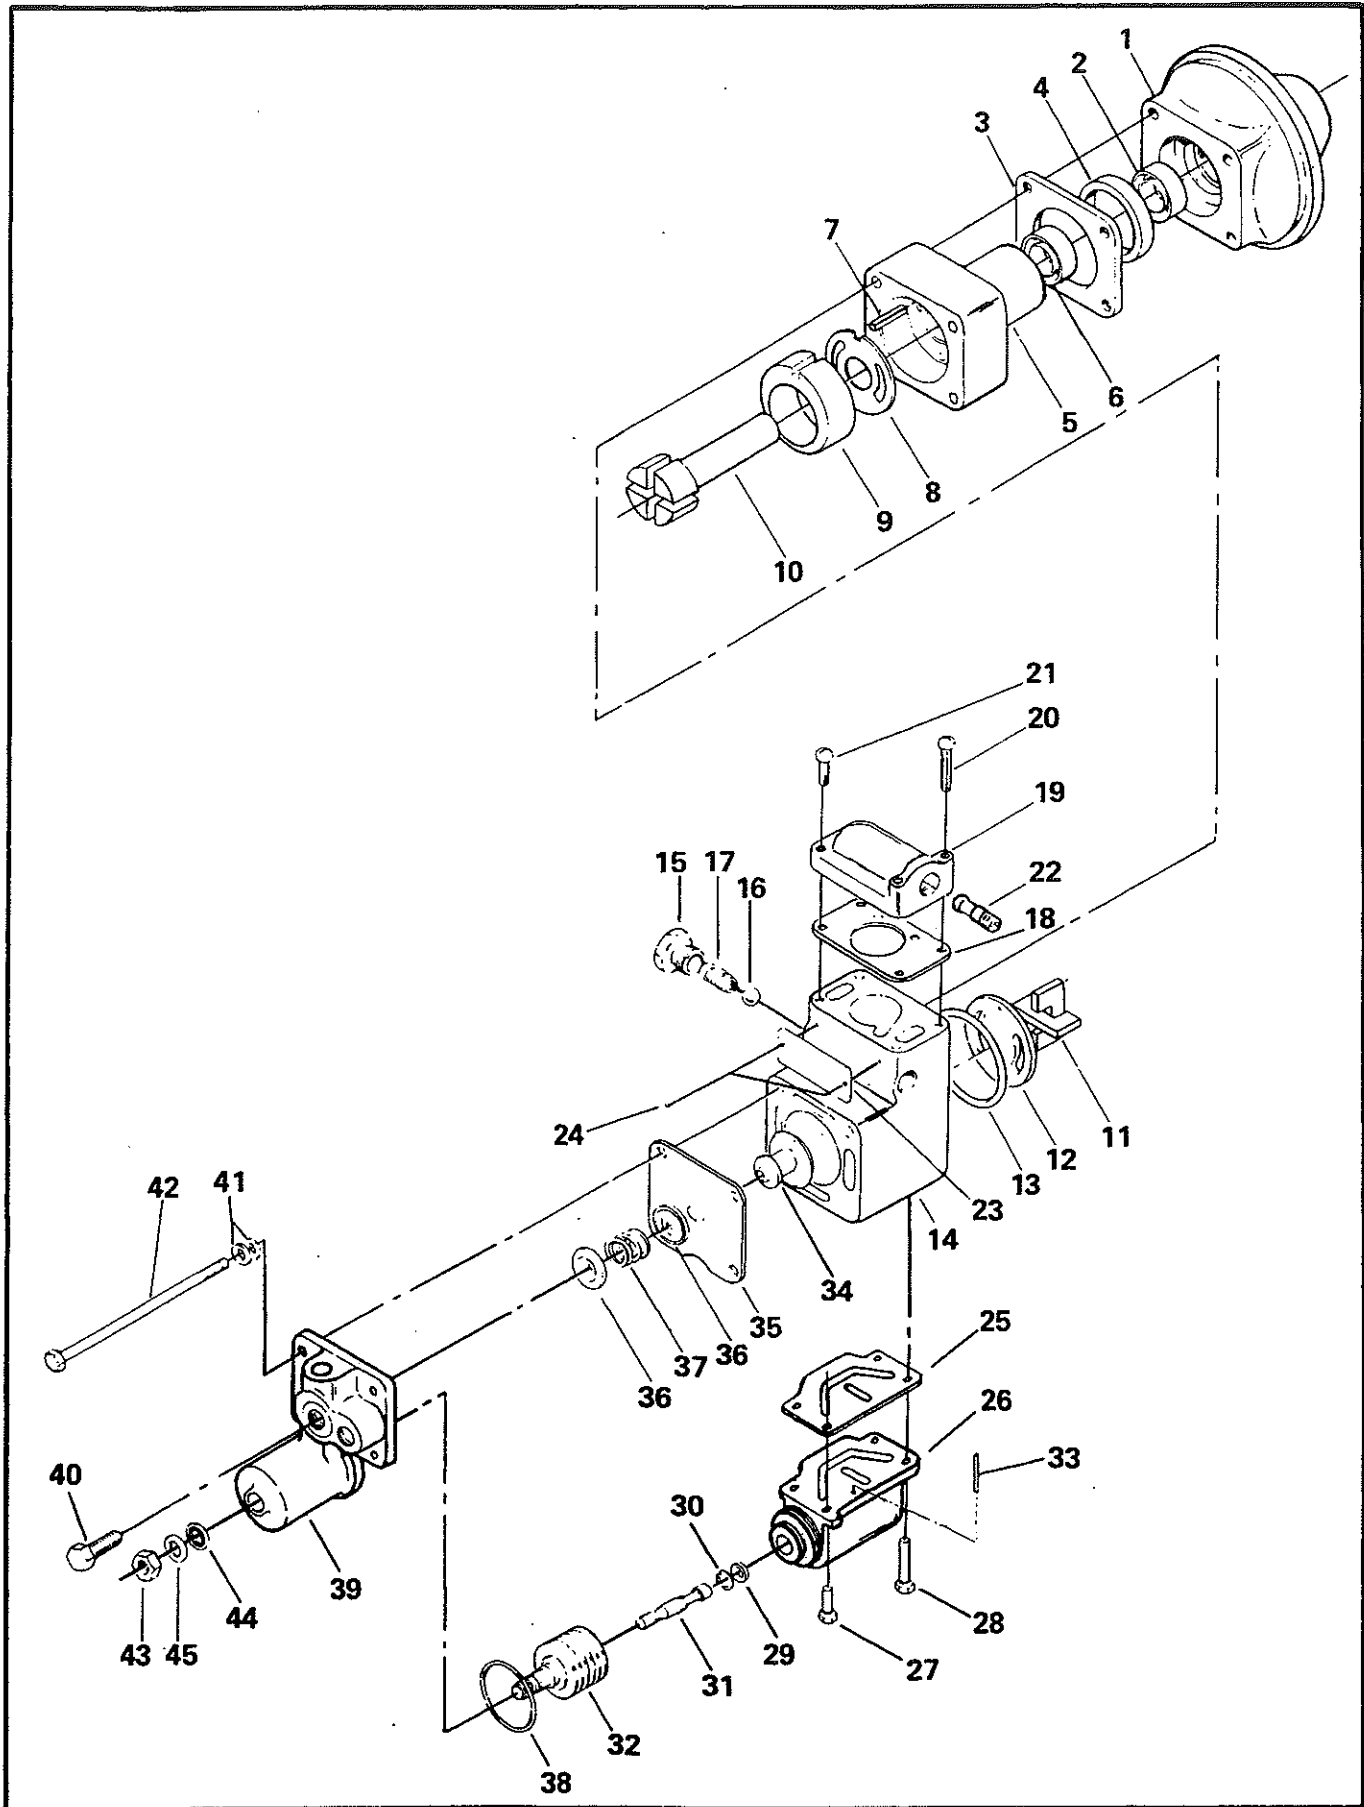

FIGURE 40-08. FUEL PUMP ASSEMBLY.
A. Place pump assembly in a suitable fixture and remove all lockwire. Refer to Figure 40-08. Remove screw (40) from cover (39) to release spring pressure. Remove nut (43), plain washer (45) and seal washer (48), from aneroid adjusting screw. Remove four bolts (42) from pump assembly and vapor separator relief valve aneroid assembly and vapor separator relief valve aneroid assembly (14 through 45). Remove this section from basic pump assembly (5 through 13). Separate cover (39) from body (14) and (26) while screwing down on aneroid (32). Use care when removing cover so as not to stretch aneroid (32) or compress it by screwing it too far into cover (39) prior to separation from body (26).
B. Remove screw (27 and 28), variable orifice body (26), gasket (25) and "O" ring (38). Pin (33) must be removed so aneroid (32) and rod (31) can be withdrawn from body. The rod seal (29) and retaining ring (30) can be removed for replacement by soaking variable orifice body (26) in a mixture of 80% Glacial Acetic acid and water, then scrape off the softened epoxy. Remove ball (16), spring (17) and plug (15) from vapor separator body. Remove screws (20 & 21), cover (19), gasket (18) and ejector (22).
C. Disassembly of the basic pump should be accomplished in the following manner. Refer to exploded view in Figure 40-08 and remove the adapter (91) and insulator (3) from the basic pump. Remove seal (2) from adapter (1) and bushing (4) from insulator (3). Hold pump body firmly in palm of hand, end plate (12) down, and apply pressure to drive end of rotor shaft (10) forcing end plate (12), end plate seal (13), blades (11) and shaft (10) from pump body. Remove seal (6) and discard. It is important to note the liner position relative to the rotation marking found on the top surface of the liner. It must be installed with the proper marking (C or CC) in the up position.
A. Reassemble basic pump (5 through 13) in reverse order of disassembly. Refer to Figure 40-08, and install seal (6) in body (5). Install pin (7), plate (8) and liner (9) in body (5). Be sure liner is installed with proper rotation lettering visible. Use light machine oil to lubricate shaft (10) and install in pump. Install blades (11) in position and lubricate lightly. Install plate (12) and seal (13) to complete basic pump assembly. Install seal (2) in adapter (1). Install bushing (4) and insulator (3) on pump assembly and insert pump assembly (3 through 13) into adapter assembly (1).
B. Refer to exploded drawing Figure 40-08, and assemble vapor separator, relief valve and aneroid sections as follows:
C. Install seal (29) in body (26) and apply a thin layer of Loctite 290 in the retaining ring groove and install retaining ring (30). Insert aneroid and rod assembly (31 & 32) into body (26) and install pin (33).
D. Install to body (14), gasket (18) and cover (19), secure with screws (20) and (21) using Loctite 242 on threads. Install ejector (22) in cover (19).